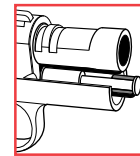

Figure 57-2
2. Firmly “snap” the takedown piece over the exposed portion of the guide rod between inner spring plug and guide rod cap. (See fig. 57-2)